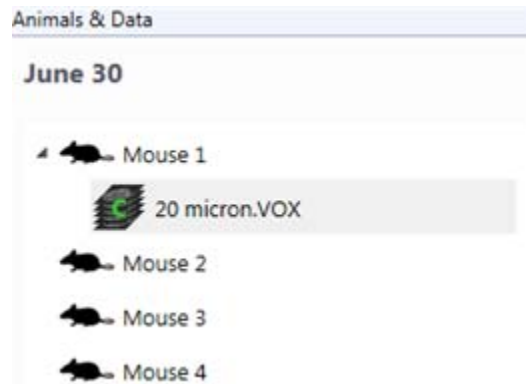

Figure 56. Calibrated Scan
- 4 Click the **OK** button. The Choose Calibration Scan Window closes and the Animals & Data Tab displays a green C next to the calibrated scan. See Figure 56.